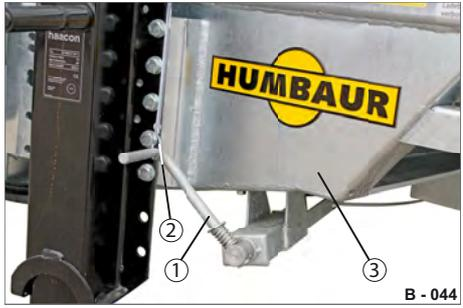
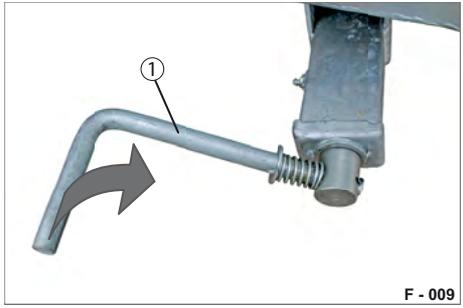

Fig. 12 Screw parking brake secured in drive position
Fig. 13 Applying the screw parking brake
- ▶ Release the hook (Fig. 12/2) from the crank (Fig. 13/1).